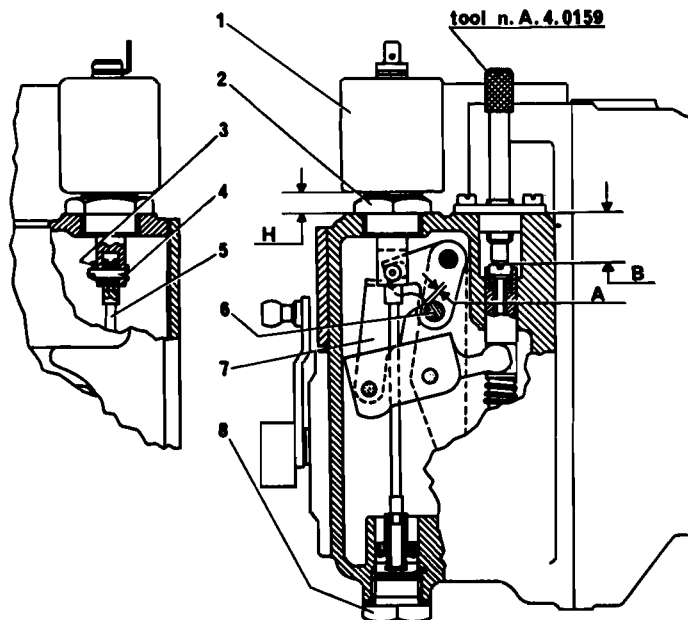

Fig. 3.31 Cold start device and plunger (Sec 31)
- 4 Measure and record the distance H from the bottom of the solenoid to the control unit (Fig. 3.31).
- 13 Measure the clearance (A) between the pin on the solenoid lever and the arm. This should be as shown in Fig. 3.31. Where necessary, screw the solenoid out to decrease the clearance, or in to increase it.